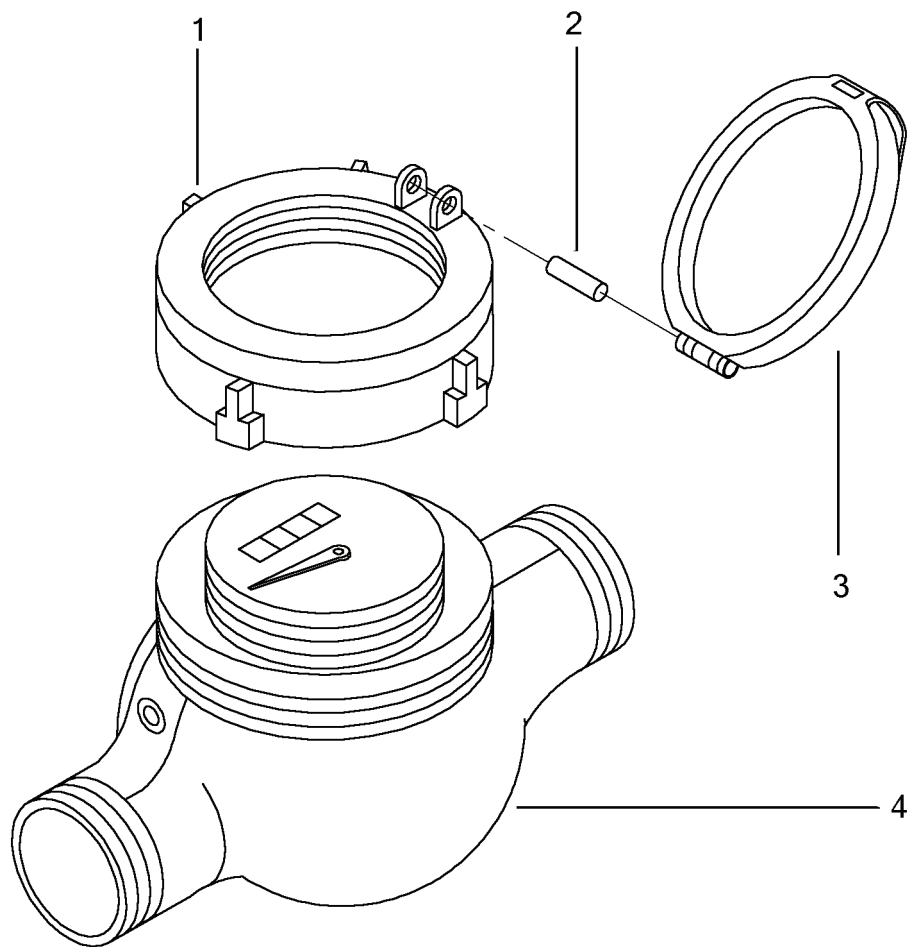

Figure 2-9. Product Water Flow Meter.
**2-16. Product Water Flow Meter. (Figure 2-9)**
To remove the Product Water Flow Meter (4, Figure 2-9); loosen the inlet and outlet couplings and remove from distillate piping group.